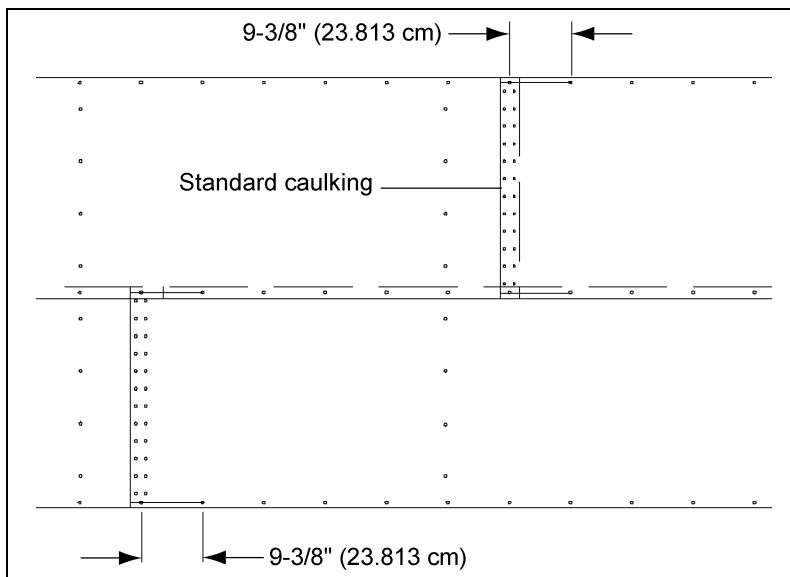

Figure 5C Standard Sidewall Sheets as Viewed from Inside
**NOTE:** The rope caulking is installed before each sheet is assembled. Apply rope caulking between the last vertical row of bolts and edge of outside sheet. There is sufficient caulking for all vertical seams on storage and drying bins. Wipe sheet clean where caulking is to be applied. (See Figure 5C.)